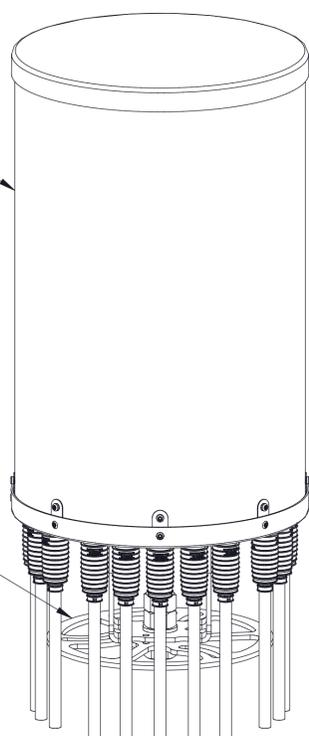

Figure 5. Routing RF Cable and Vertical Alignment
2. Attach the RF cables to the antenna input connectors and torque the 4.3/10 connector to 5-8 Nm (45-71 LB-IN), refer to Figure 5.